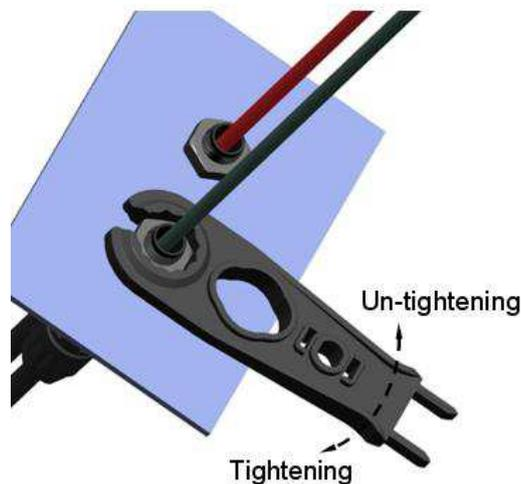

Figure 12
3.5.1 For installation application, it can use opening tooling to tighten or un-tighten operation in **Figure 12**